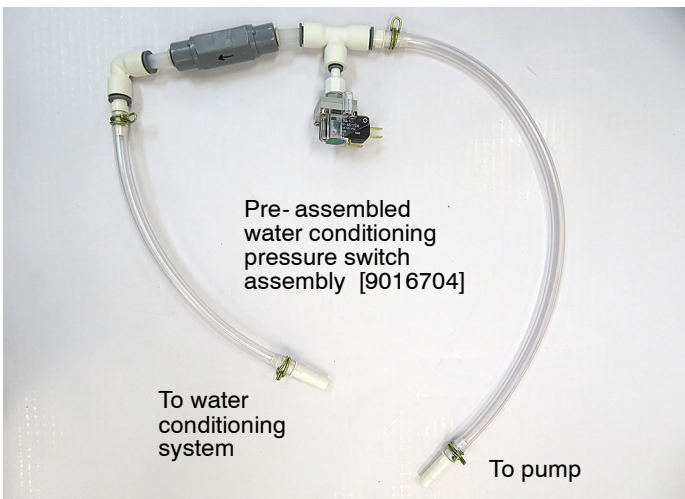

Fig. 16
15. Install the pre- assembled water conditioning pressure switch assembly [9016704] as described in the following steps (Figure 16).